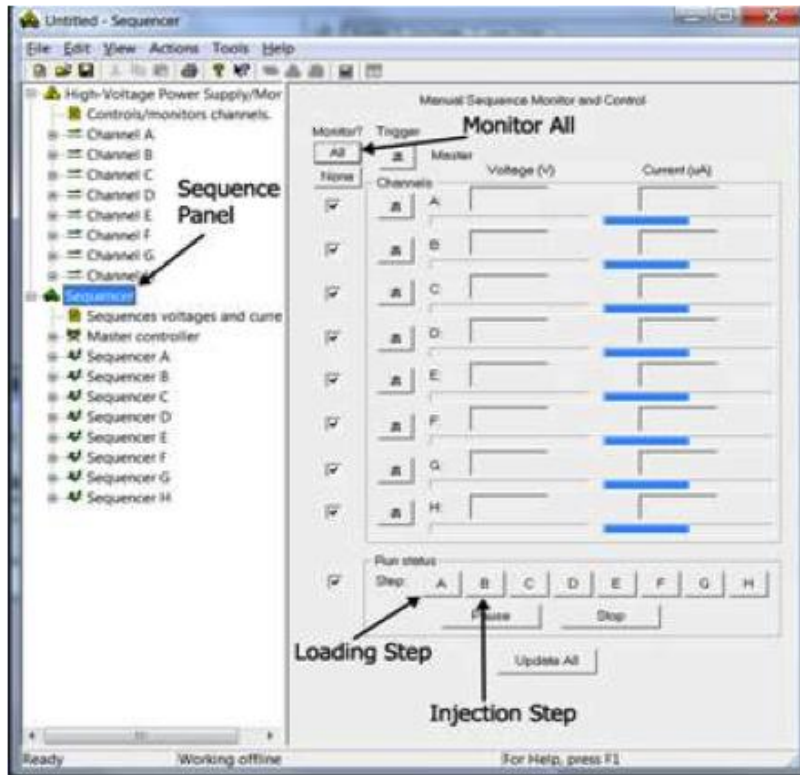

Figure 5. Picture of Sequence Software screen when running Load and Inject sequences.
- Now it's time to run the sequence. Press **A** to run the **Loading** voltage sequence, Press **B** to Inject (Figure 5).